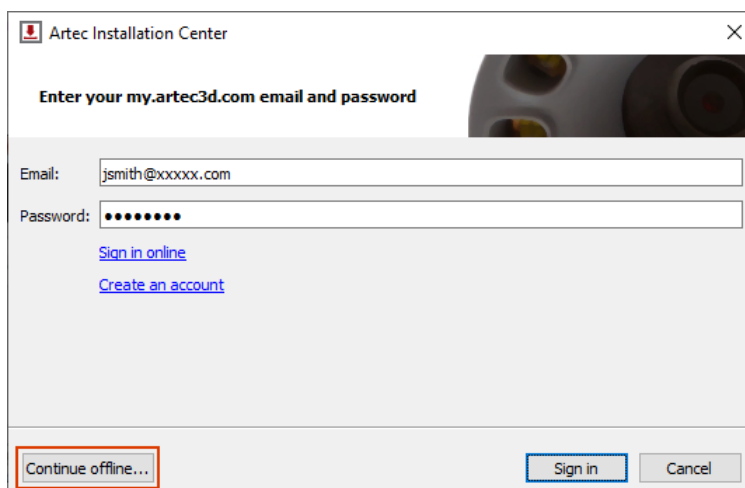

Figure 29: Artec Installation Center authentication dialog
2. During installation the login/password dialog will be displayed as Figure 29 shows. Click *Continue offline...*